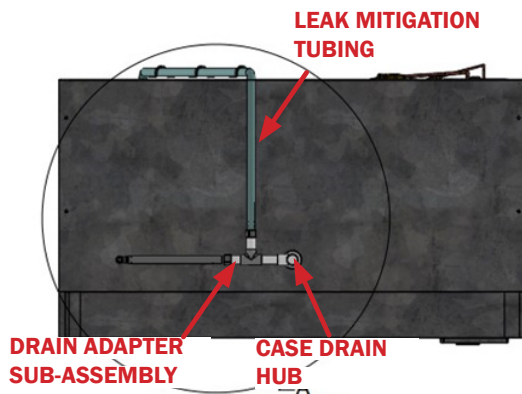

Fig. 30 Long vinyl tubing
5. Once the Drain Adapter is secured, attach the Long Vinyl tubing to the rear-facing barbed fitting (T-section) (Fig. 30).